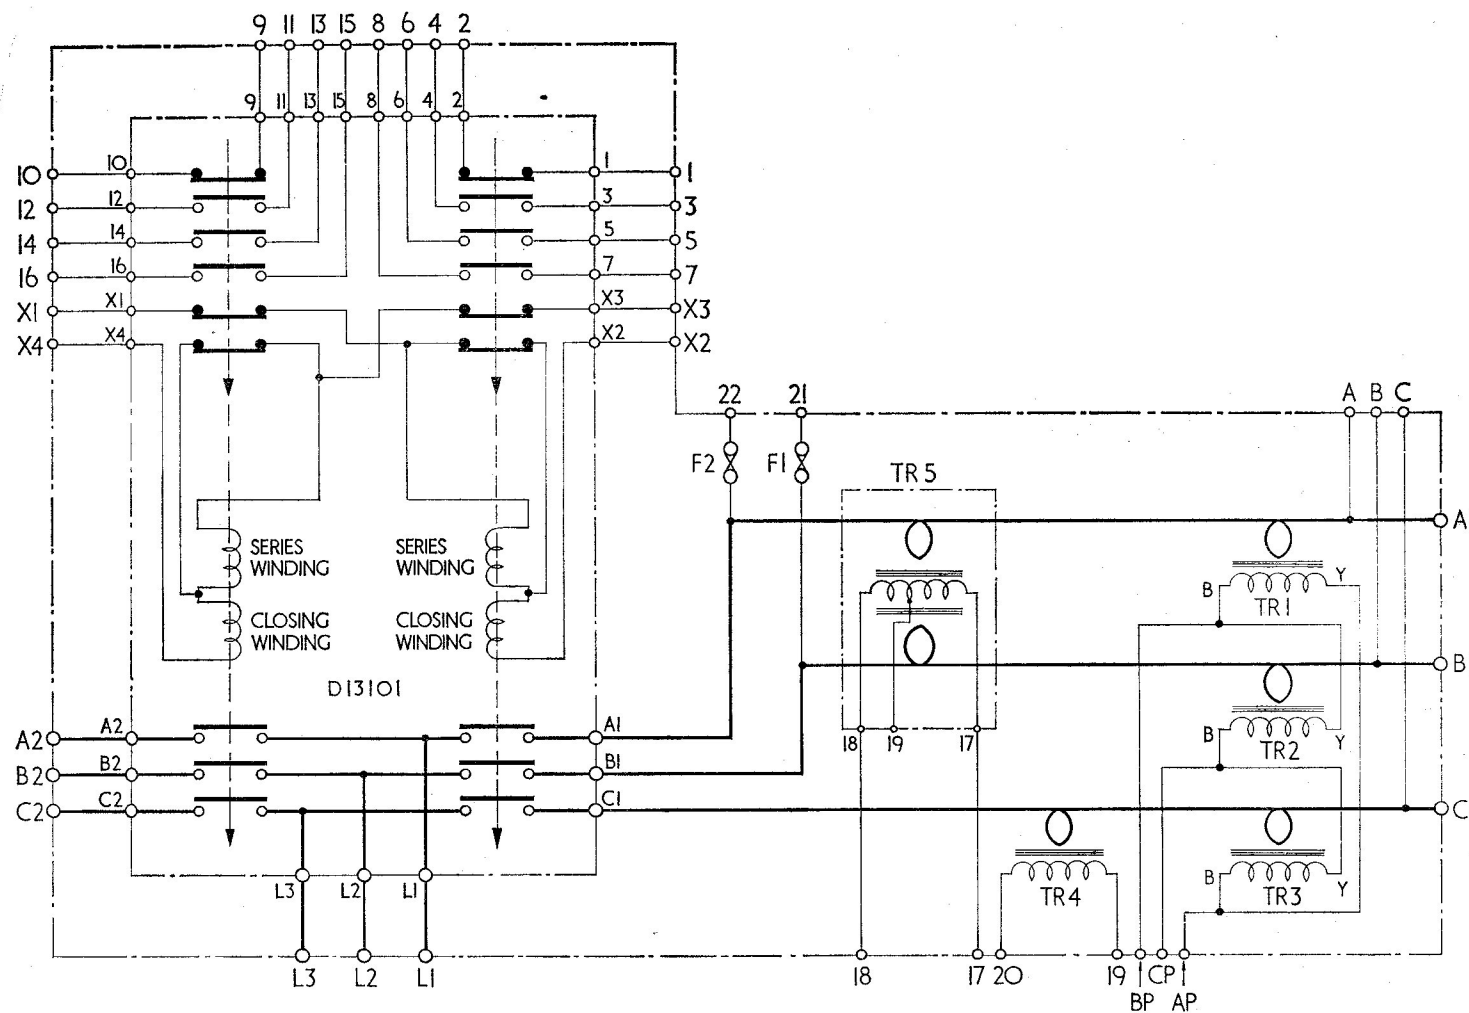

Fig. 2. Circuit diagram
3. Internal connections are shown in the circuit diagram (fig. 2). All the external connections numbered thereon are taken to moulded Ward Brooke multi-way terminal blocks or heavy-current terminal posts in Rotax moulded 3-way terminal blocks, protected by covers and mounted on the front end plate. Access to internal components is via light aluminium covers to top and sides secured by quick-release fasteners.